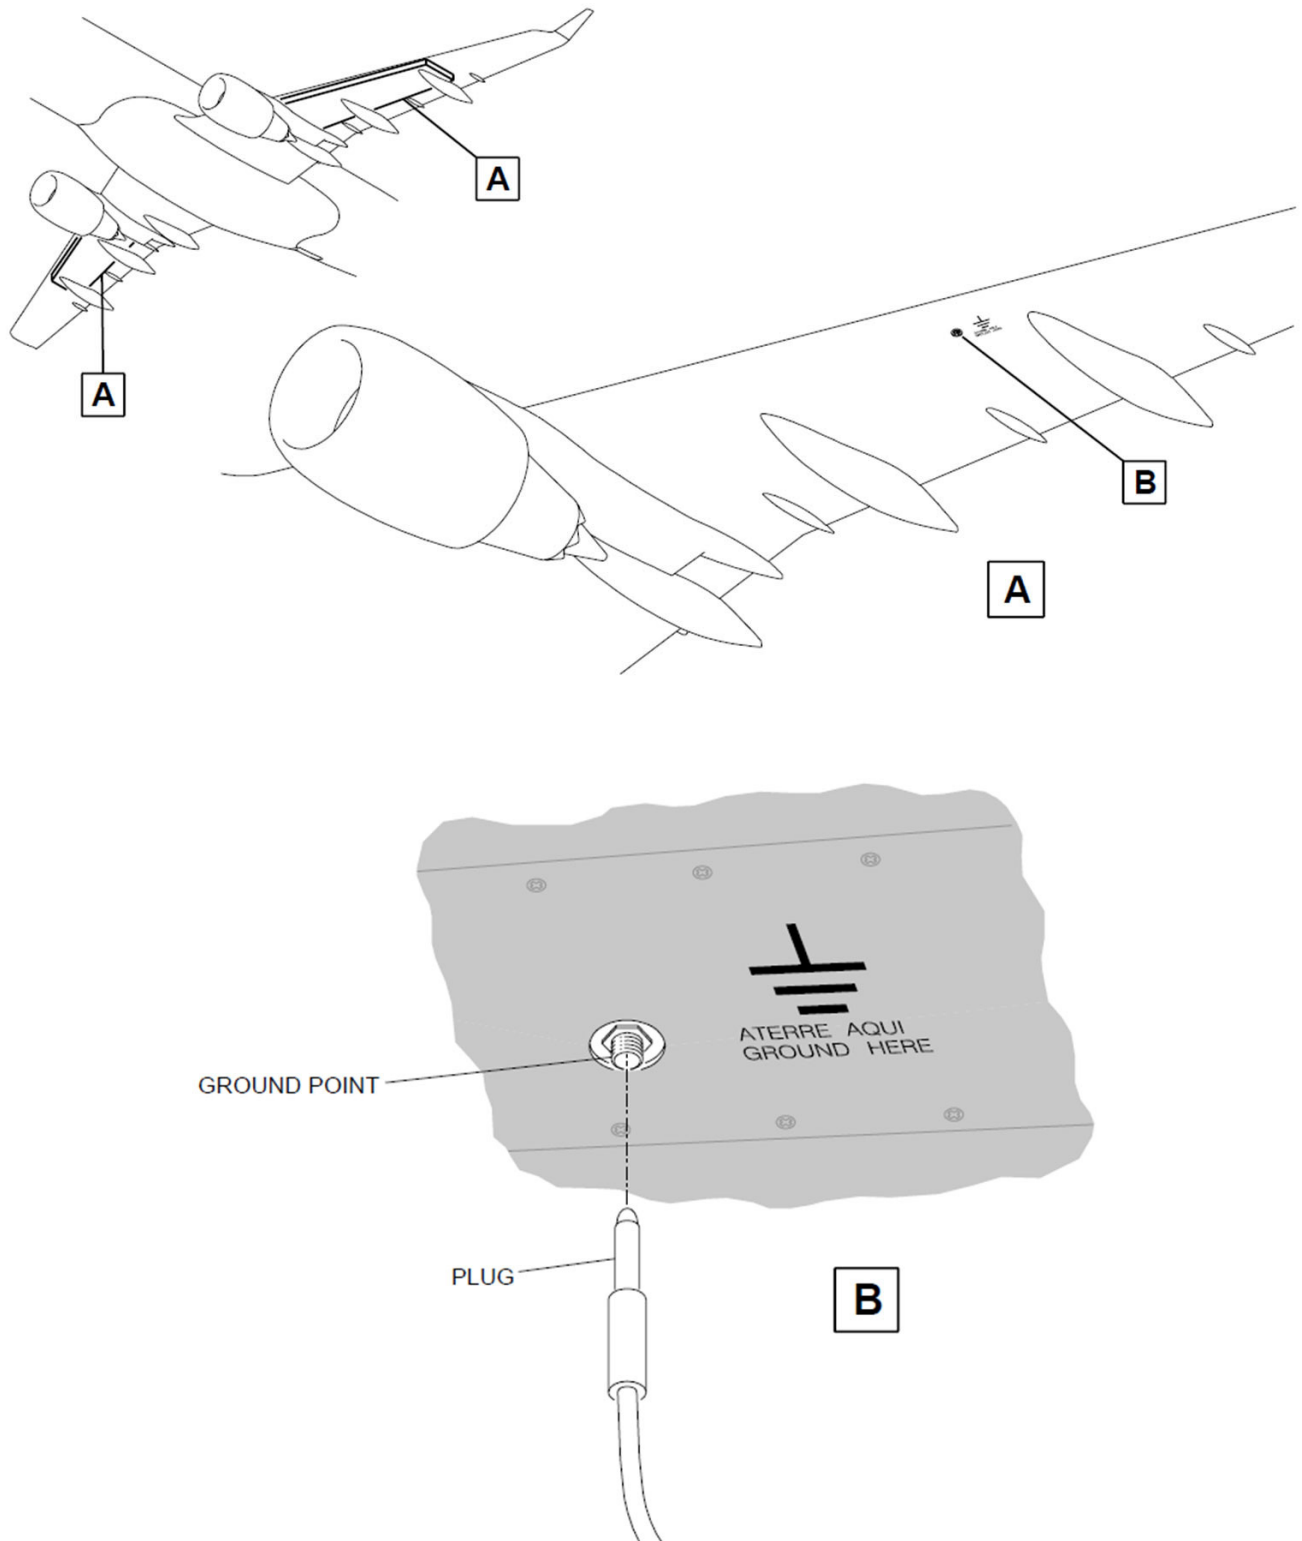
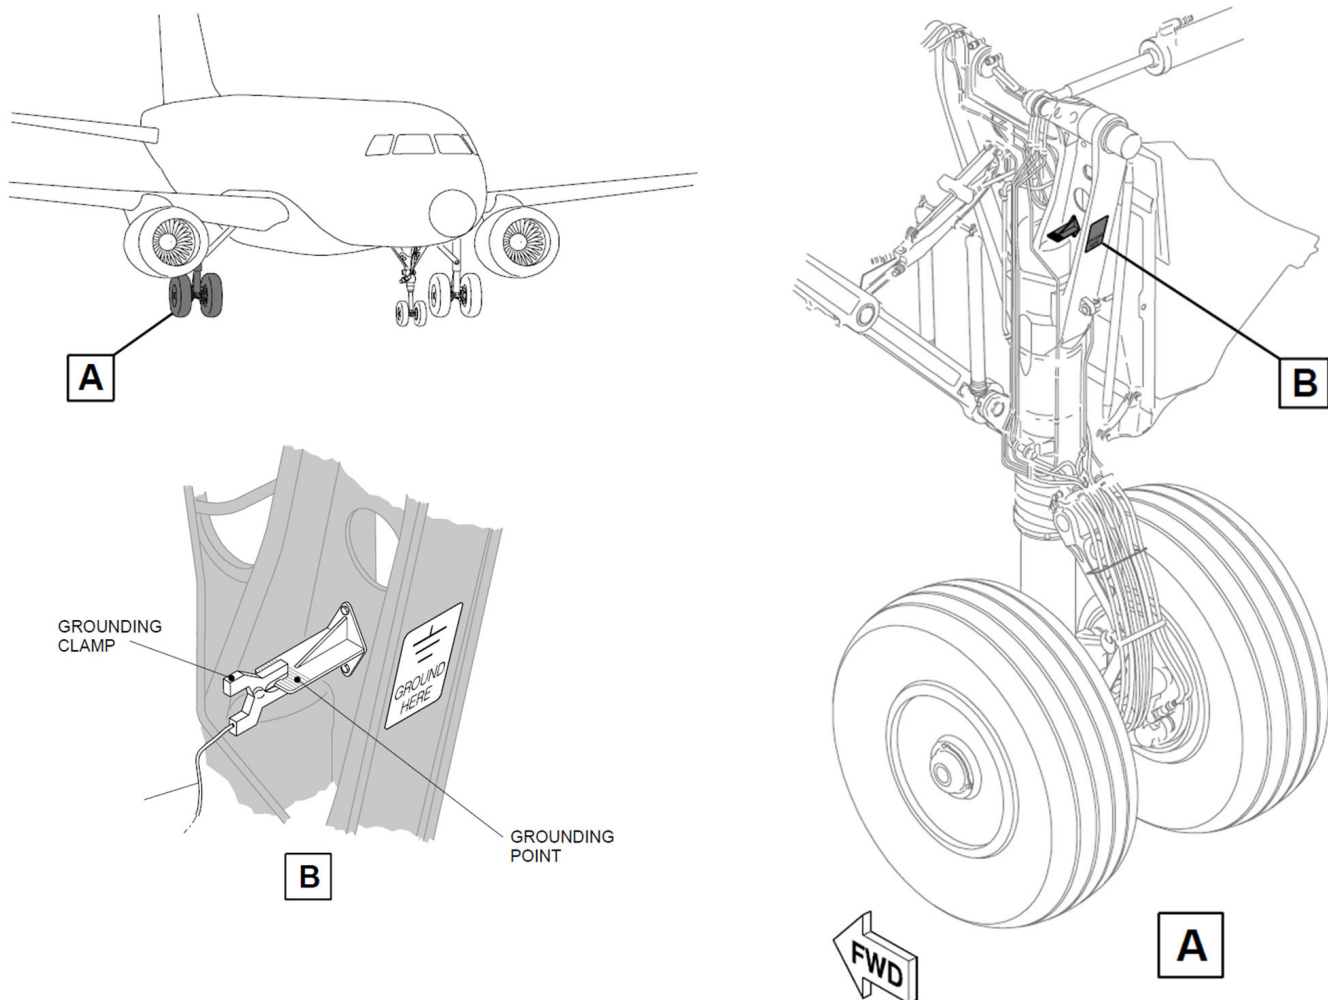

Figure 4-1: E-175 Wing Bonding Locations
Figure 4-2: E-175 Right MLG Bonding Location
- A. Before commencing any fuel servicing on Mesa Airlines, Inc. aircraft, ensure the aircraft has been properly bonded to the fuel tender. Refer to Figure 4-1: "E-175 Wing Bonding Locations" and Figure 4-2: "E-175 Right MLG Bonding Location" for reference to the following procedures.
- 1. Left or Right Wing Leading Edges (plug style only) (refer to Figure 4-1: "E-175 Wing Bonding Locations").
- 2. Right Main Landing Gear (MLG) (clamp style only) (refer to Figure 4-2: "E-175 Right MLG Bonding Location").
1. For a Plug Connector: Insert the metal plug connector into the nearest ground stud receptacle (Figure 4-1) on the wing leading edge.
2. For Alligator Clamp Connectors: Attach the alligator clamp to the grounding point (Figure 4-2) on the right main landing gear.